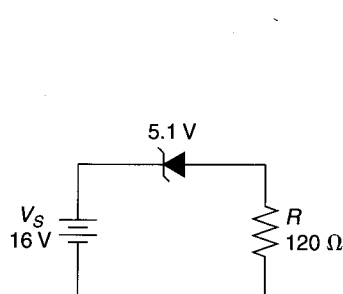

FIGURE 2.52
52. Calculate the total current for the circuit shown in Figure 2.52.